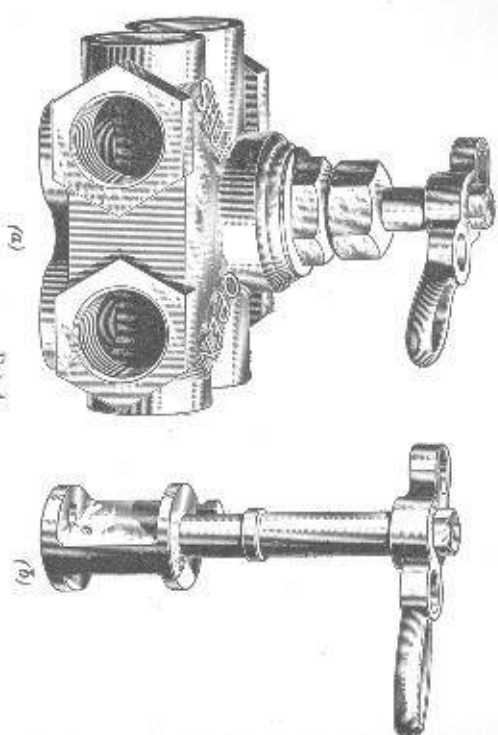
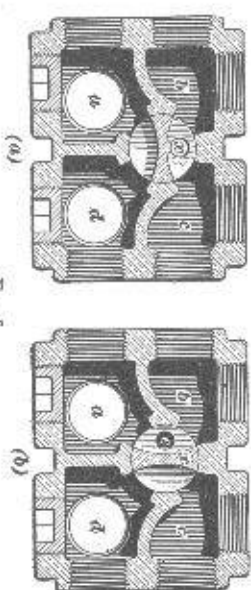

FIG. 4
FIG. 5
5. Vapor Cut-Out Valve.—In Fig. 4 (*a*) is shown the cut-out valve, complete, and in (*b*) is a view of the plug valve
removed from the valve body. In Fig. 5 (a) and (b) are shown sectional views of the valve, the sections being taken on a horizontal plane through the middle of the valve to show the four chambers *a*, *b*, *c*, and *d* and the center chamber in which the plug valve shown in Fig. 4 (b) works. Each of the first four chambers is provided with two or more pipe connections for convenience of piping, all unused openings being fitted with plugs. The end of the valve containing the chambers *a* and *d* is called the *regulator end*, whereas the end having the chambers *b* and *c* is the *radiation end*, or the heating-coil end. When
the handle of the valve stands at *Open*, marked on the outside of the body of the valve, Fig. 4 (a), chamber *a* is connected to chamber *b*, and chamber *c* is connected to chamber *d*, as shown in Fig. 5 (b), so that steam from the automatic valve in the vapor regulator can pass through chambers *a* and *b* to the radiating pipes, and after completing the circuit of the car it can pass through chambers *c* and *d* to the thermostat in the vapor regulator. When the handle of the cut-out cock stands at *Shut*, Fig. 4 (a), the steam entering chamber *a* from the automatic valve in the vapor regulator cannot pass into the radiating pipes, but must pass to chamber *d*, Fig. 5 (a), and to the outlet
of the vapor regulator, thus maintaining the temperature of the regulator and preventing it from freezing up during the time steam is shut off from the heating coils. When the cut-out valve is closed, the port *x* in the body, Fig. 5 (a), which leads to the drip pipe *x*, Fig. 1 (a), and port *e* in the plug of the valve, Fig. 4 (b), register, and any condensation in the radiating pipes can escape to the atmosphere through the opening thus made.
To shut steam off from the heating coils, the handle of the vapor cut-out valve is turned to position marked *Shut*. In this position, the steam after passing the automatic admission valve flows directly through the cut-out valve without entering the heating coils, and passes direct to the thermostat. Just enough steam flows past the automatic admission valve to maintain the thermostat at about 212° F. In this position of the cut-out valve, any condensation in the heating coils can escape through the 1-inch drip port *x*, Fig. 5 (*a*).